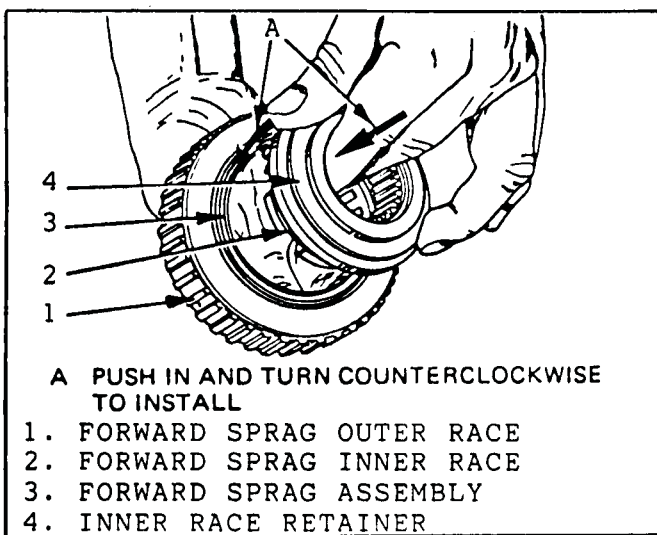

Figure 98
4. Install the inner race into the sprag assembly. Insert the race by pushing in and turning to the left as shown in Figure 98.